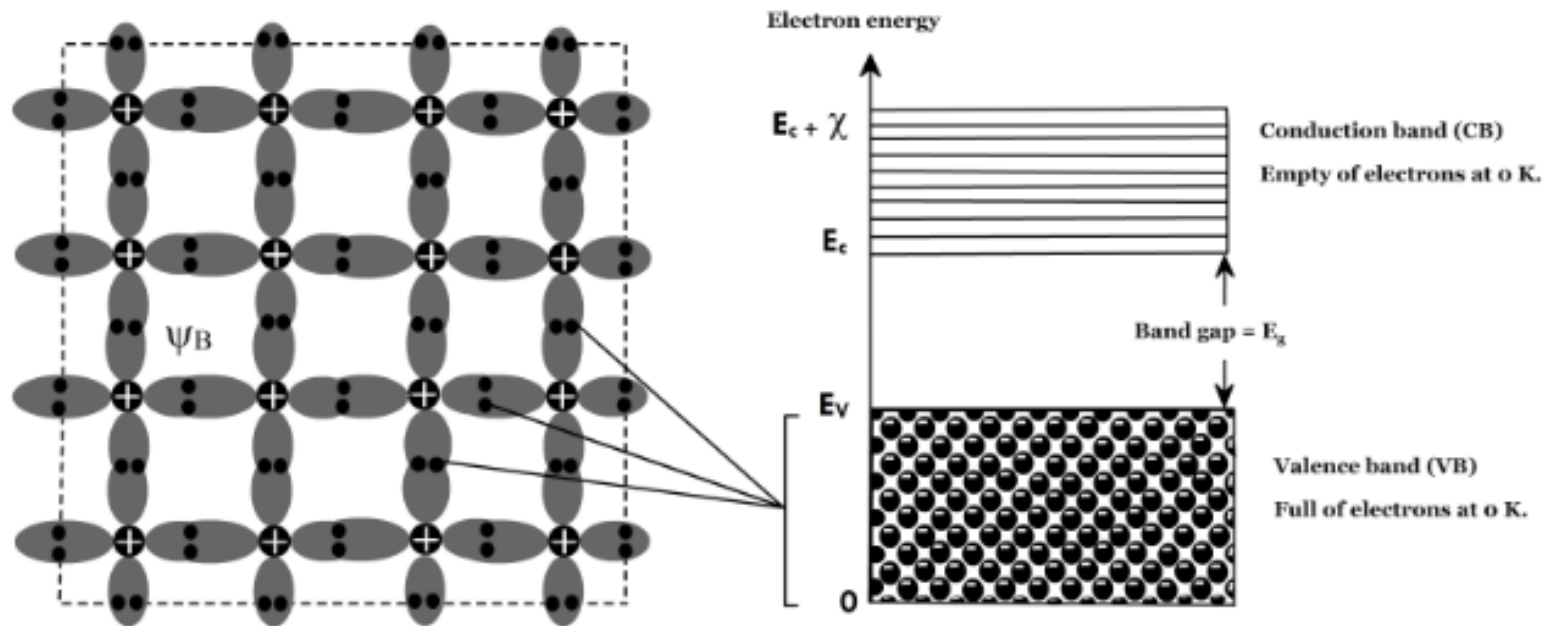

Figure 1: Hybrid orbitals in Si that forms a valence and conduction band with a band gap.
Si is a semiconductor material with 4 electrons in the outer shell. These 4 electrons occupy 4 sp^3 hybrid orbitals with a tetrahedral arrangement. This gives rise to a full valence band (VB) and an empty conduction band (CB) at absolute zero with an energy gap of 1.17 eV between the two. This energy gap is called the *band gap*. This information is summarized in figure 1.
From figure 1 it can be seen that this is nothing but the band gap so that equation 10 becomes